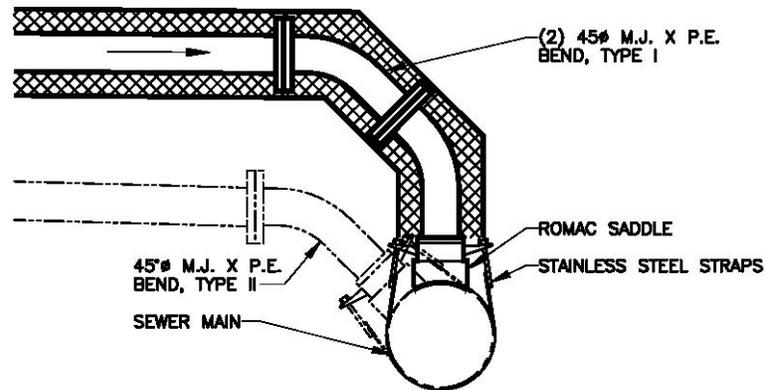

Figure 10: Connection Schemes
- A. Wastewater service connections shall be cut or bored into wastewater mains. Only Contractors licensed in the State shall tap Utility mains and install wastewater service saddles and connections. All wastewater saddles, both new installations and upon replacement of a service line, shall be attached to the top of the main (Type I) as illustrated in Figure 10. Type II connections require Utility approval at the time of application. It is imperative that the installer verifies the wastewater main elevation and the wastewater service elevation/slope prior to the installation of the wastewater service piping.
- B. The wastewater service line shall be run in practical alignment and at a uniform slope of not less than one-quarter (1/4) inch per foot toward the point of disposal. Where it is impractical, due to the depth of the street wastewater main or to structure features to obtain a slope of one-quarter (1/4) inch per foot, any such pipe four (4) inches or larger may have a slope of not less than one-eighth (1/8) inch per foot.